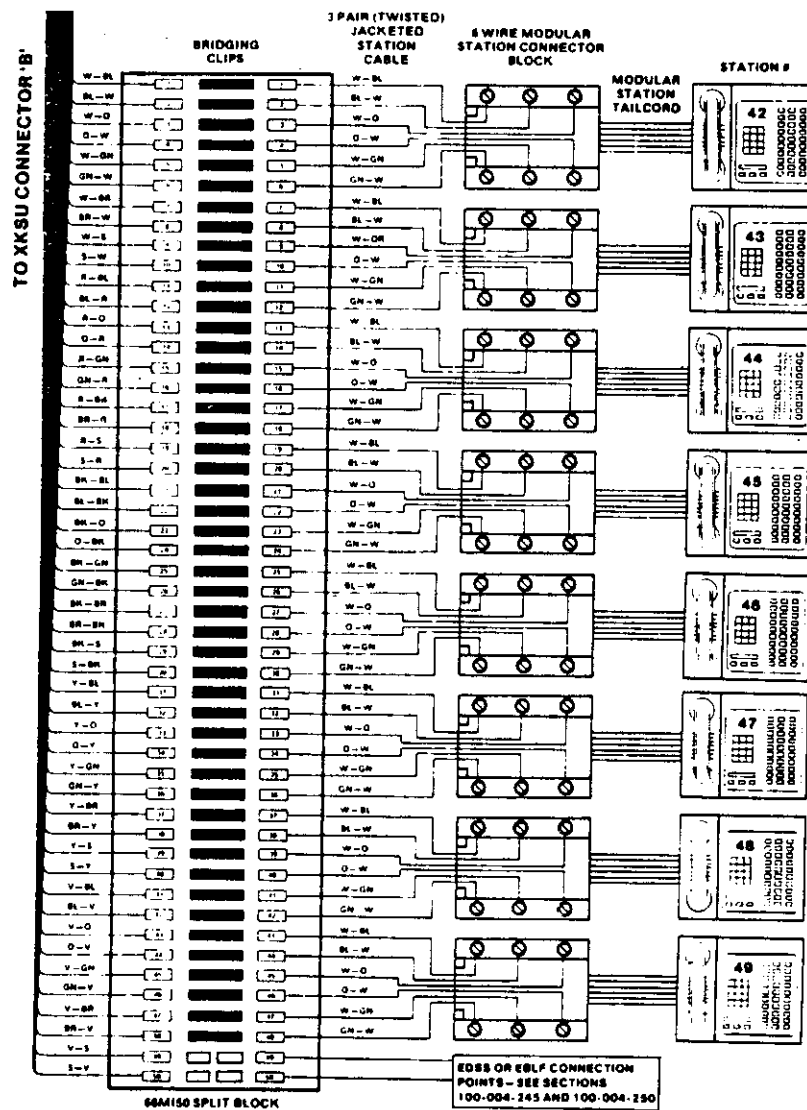

FIGURE 5A — XKSU MDF BLOCK "XB" CONNECTION DIAGRAM
2.8 XKSU stations (extensions #42 through #61) are terminated on MDF's "XB", "XC", and "XD" as shown in Figures 5A, 5B, and 5C.